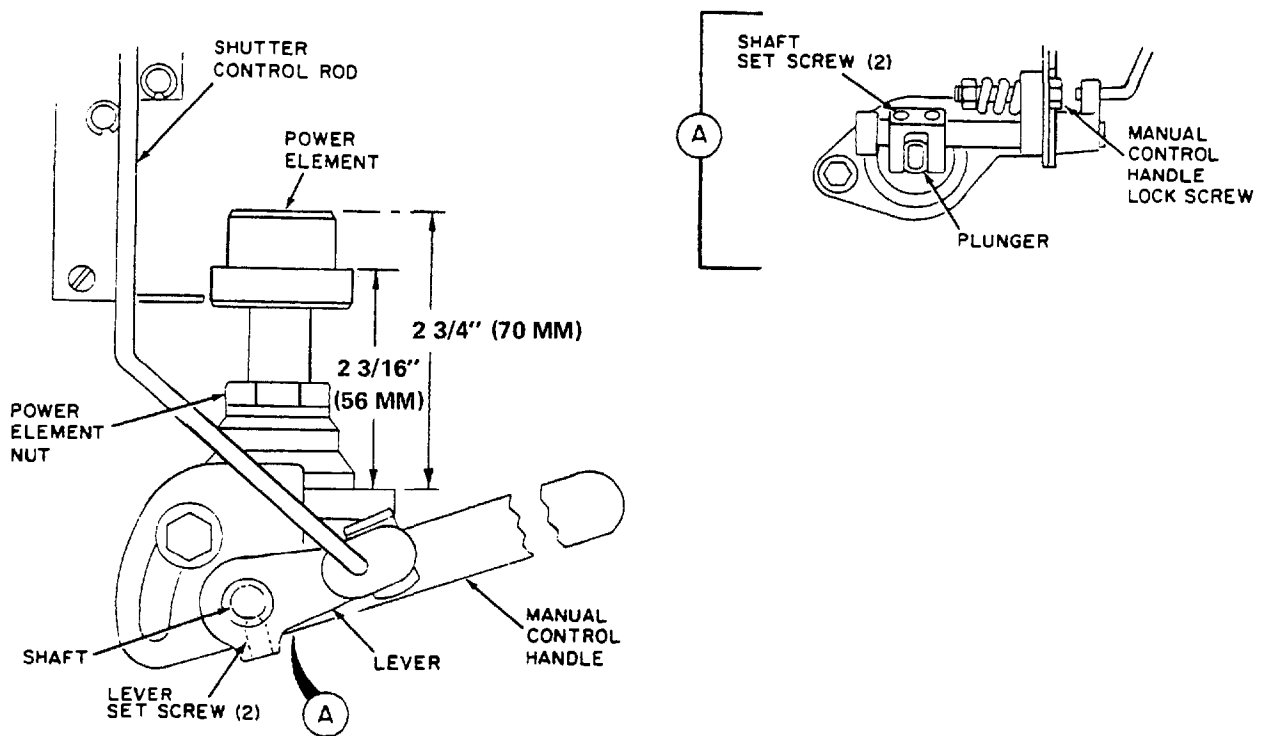

Figure 4-52. Shutter Control, Adjustment
c. Adjust. Refer to figure 4-52 and adjust shutter control assembly as follows:
(a) Install packing ring (15), nut (14), and shutter thermostat power element (13) onto shutter thermostat power element housing (16). Adjust power element to a dimensional setting of 2-3/4 inches (70 mm) (see figure 4-52) by screwing element in or out. Tighten nut (14) after adjustment.